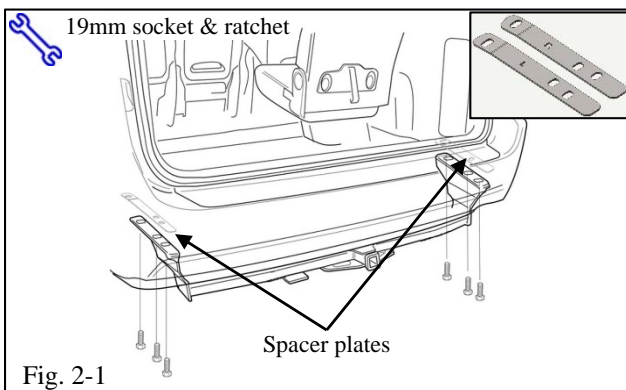

Fig. 2-1
- (1) Scrape any body sealant if it interferes with hitch installation.
- (2) Ensure the spacer plates are properly positioned between the hitch side brackets and the frame. The plates are marked R and L for right and left hand side identification (Fig. 2-1).
- (b) Install and hand tighten the three 12 mm bolts (Fig. 2-1).
- (1) Place a lock washer then a flat washer on each bolt.
- ⚠** (2) The flat washer should contact the hitch bracket.